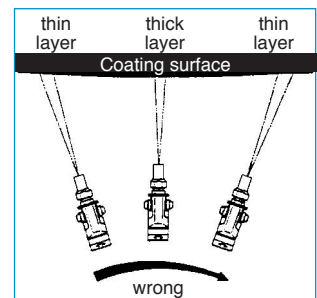

Fig. 67: Spray gun guidance
- Ensure an even speed and guide the spray gun parallel to the coating surface. Weaving with the spray gun leads to an uneven coating (see Fig. 67).